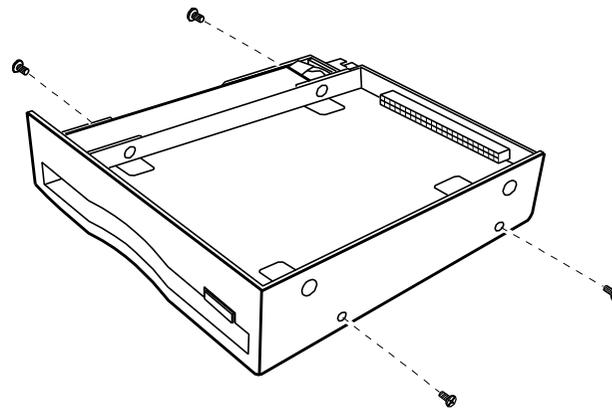

Figure 5-13. Detaching the Bracket From the Floppy Disk Drive
2. Remove four screws to detach the bracket from the floppy disk drive. (Refer to Figure 5-13.)
1. Replace the bracket and secure with four screws. (Refer to Figure 5-13.)